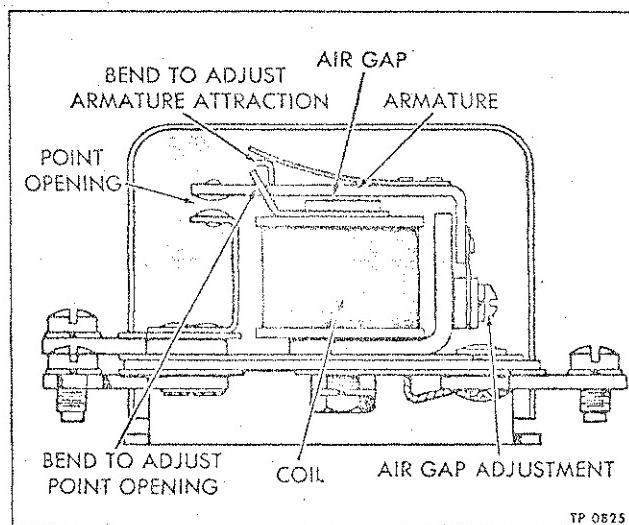

Figure 7—Reverse Solenoid Relay
Reverse Solenoid and Relay (Figs. 7 and 8)
(Fig. 7)
3. Measure point opening. Correct setting is .035 inch. If necessary to change point opening, bend stop as indicated in figure 7.
4. Measure air gap between armature and relay coil core. Air gap should be .012 inch with points closed. If necessary to change air gap, loosen air gap adjustment screws (fig. 7) and move armature up or down as required. If necessary, align support carrying lower contact so that air gap will be uniform between core and armature.